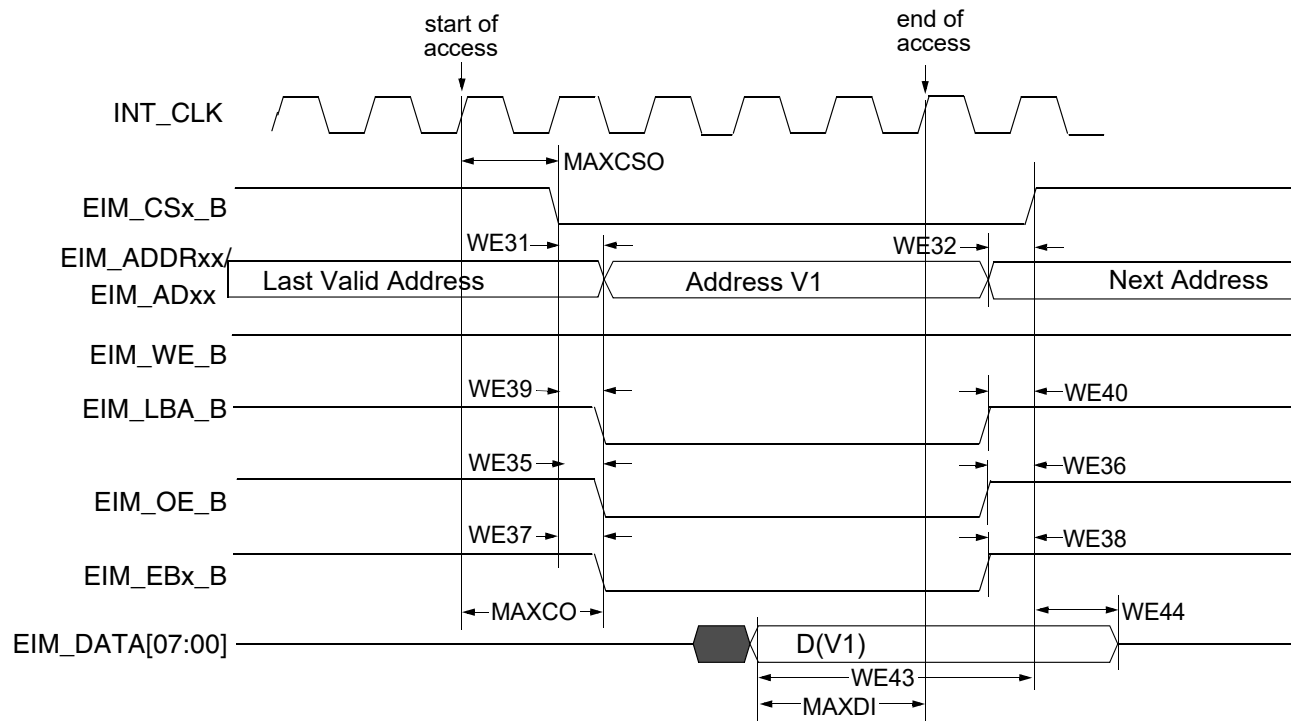
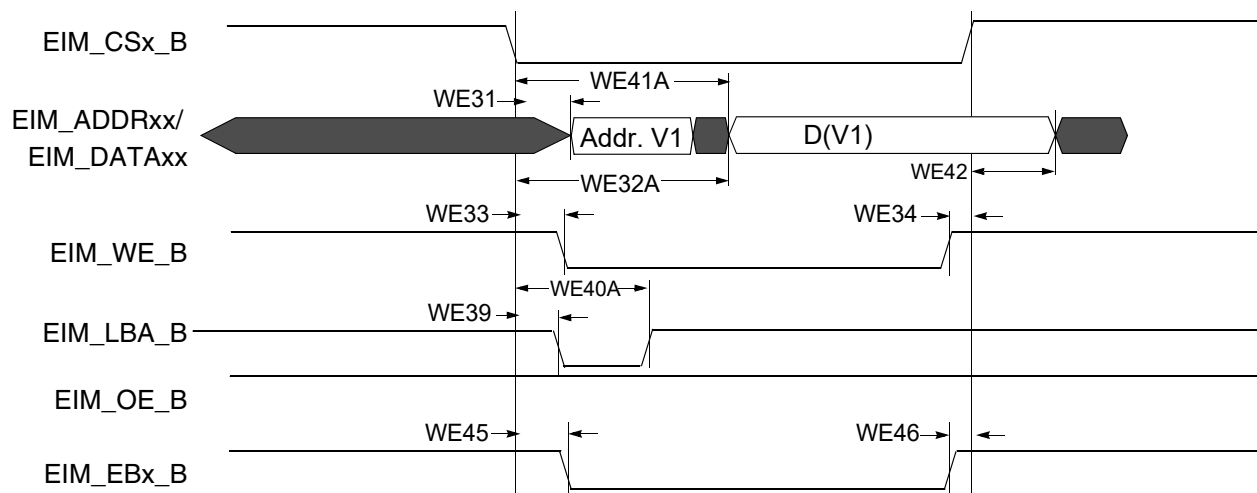
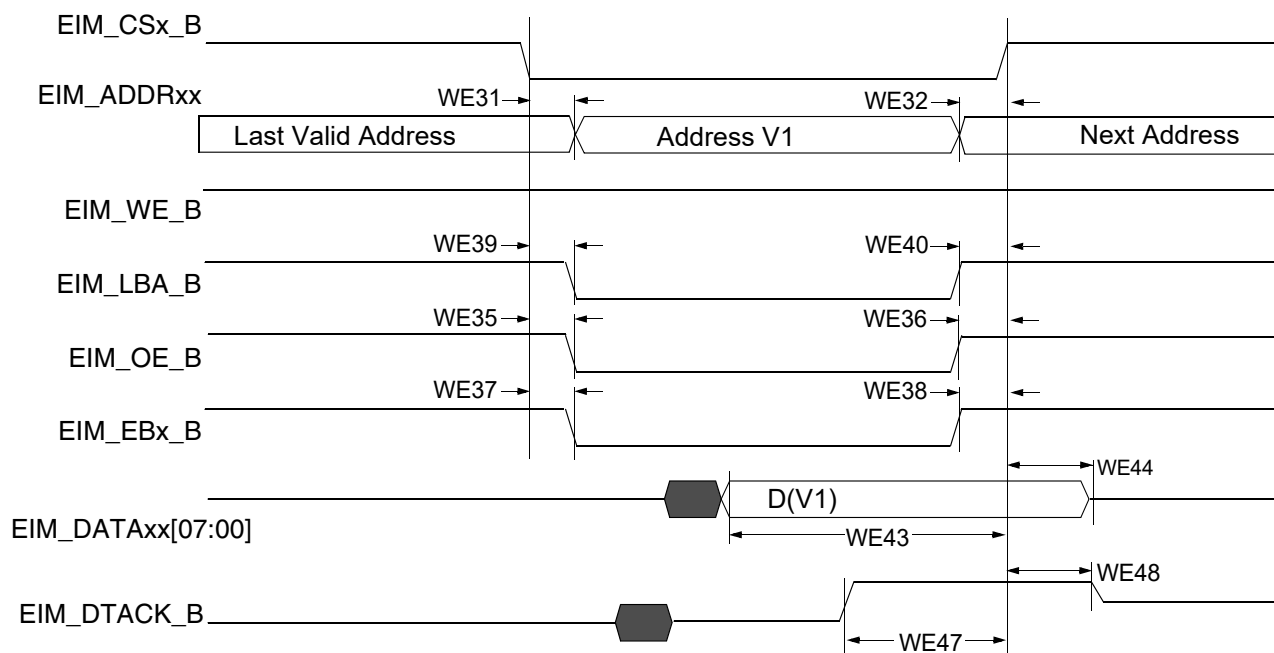

Figure 18. Asynchronous Memory Read Access (RWSC = 5)
Figure 21. Asynchronous A/D Muxed Write Access
Figure 22. DTACK Mode Read Access (DAP=0)
Figure 18 through Figure 22 and Table 42 provide timing parameters relative to the chip select (CS) state for asynchronous and DTACK EIM accesses with corresponding EIM bit fields and the timing parameters mentioned above.
Asynchronous read and write access length in cycles may vary from what is shown in Figure 18 through Figure 21 as RWSC, OEN & CSN is configured differently. See the i.MX 6DualPlus/6QuadPlus reference manual (IMX6DQPRM) for the EIM programming model.